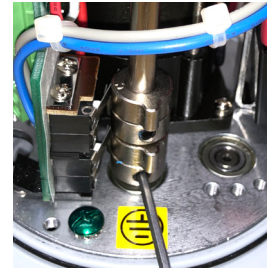

Fig 5 - CCW EOT Cam adjustment
- b. Using a 2.5mm hex key on CAM #1 (Fig 5), loosen the cam setscrew and rotate the cam CW by pulling the hex key to the LEFT a few degrees. Lightly snug up on the setscrew until resistance is felt against the cam shaft. Pull the hex key to the RIGHT SLOWLY until you hear a "click" from the associated (#1) cam switch and snug up on the cam setscrew. Do not move the actuator. Do NOT overtighten the cam setscrew.